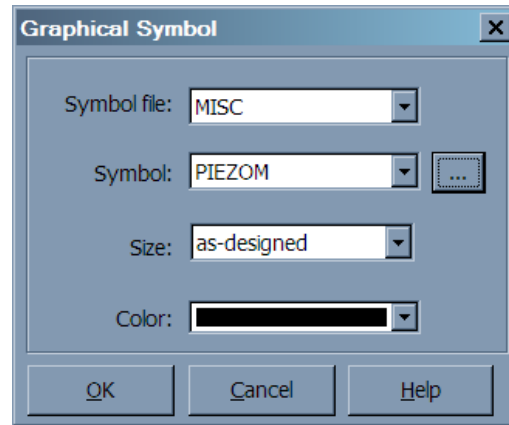

Figure 5.8: Graphical Symbol Annotation Dialog
1. Choose Annotate > Add Graphical Symbol. **LOGDRAFT** responds by displaying the Graphical Symbol dialog (shown in Figure 5.8).